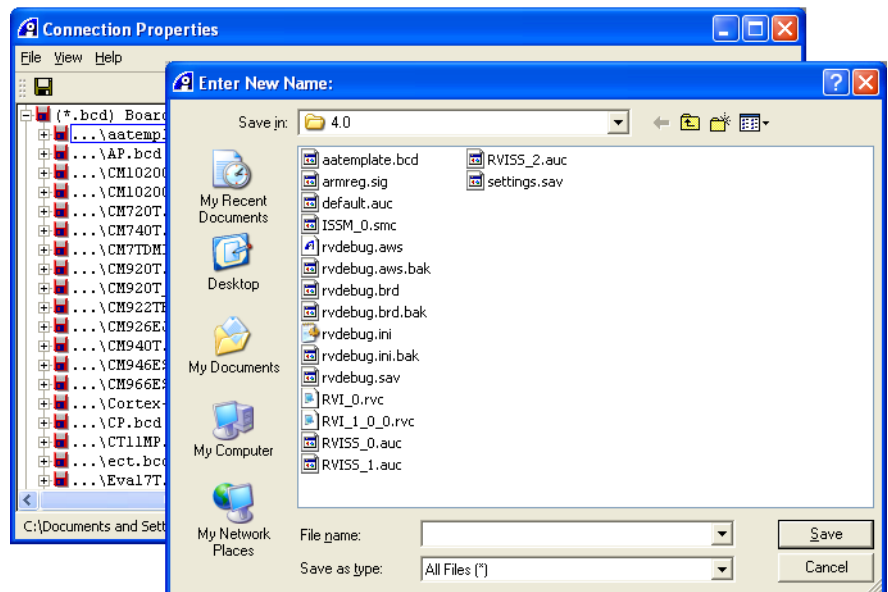

Figure 4-11 Saving an existing BCD file with a new name
5. Select **Save As...** from the context menu to open the Enter New Name dialog box. Figure 4-11 shows an example. The location displayed in this dialog box is the directory you last selected in the dialog box.